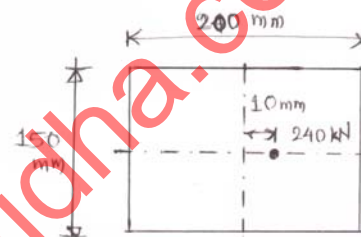

Fig. 6
- (b) A rectangular column of width 200 mm and thickness 150 mm carries a point load of 240 kN at an eccentricity of 10 mm as shown in Fig. 6. Determine the maximum and minimum stresses on the section. **07**